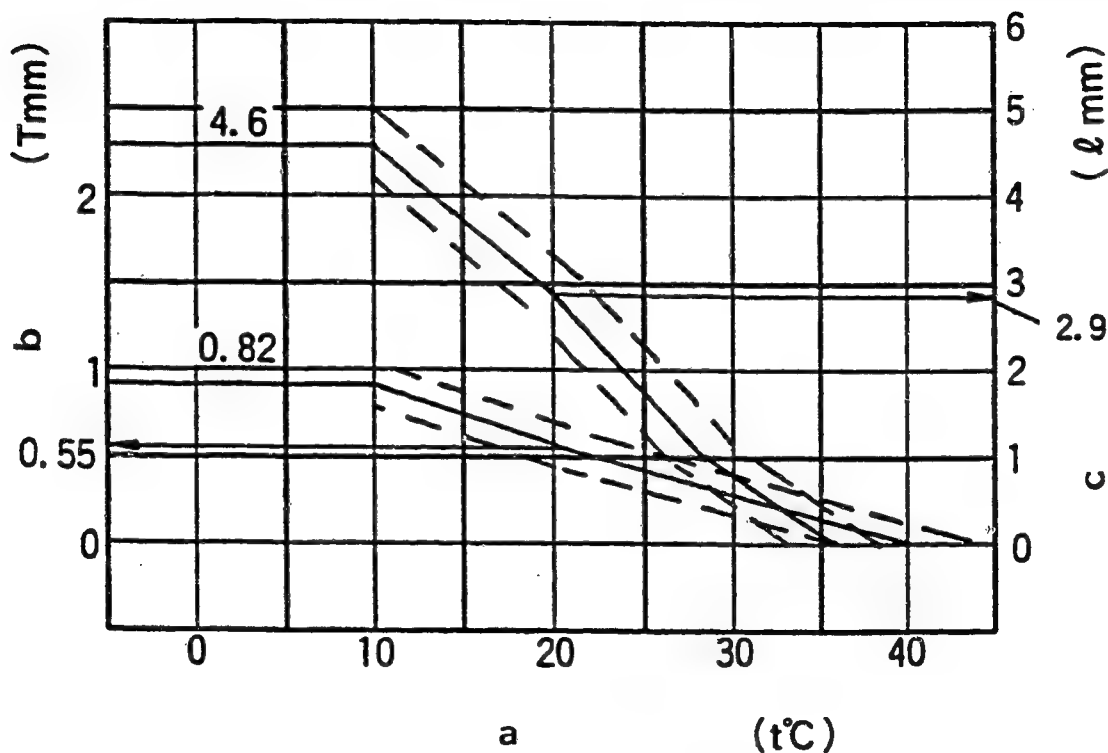

Figure 21
- 1) Calculate the timer stroke from Fig. 21 (diagram) according to the atmospheric temperature at the time of adjustment.
- 2) Adjust using the timer stroke adjusting screw (1) so that the timer stroke is as calculated in Step 1).
- 1) Calculate the block gauge dimension $l \pm 0.05$ mm from (Fig. 21) according to the atmospheric temperature at the time of adjustment.